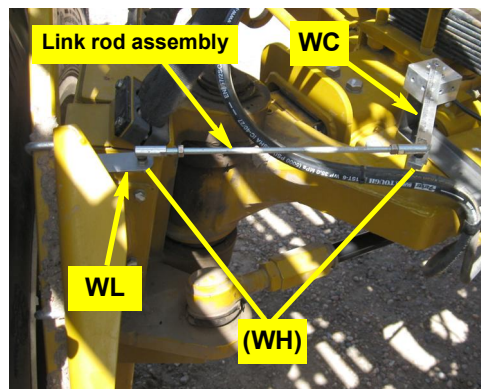

Figure 2d: Installed WAS link rod assembly
d. Using hardware **WH** (not visible), install the link rod assembly from step 1 between the last hole in WAS arm **WC** and bracket **WL**. Set the swivel studs downward at both ends (Figure 2d - leave swivel nuts **WH** loose).